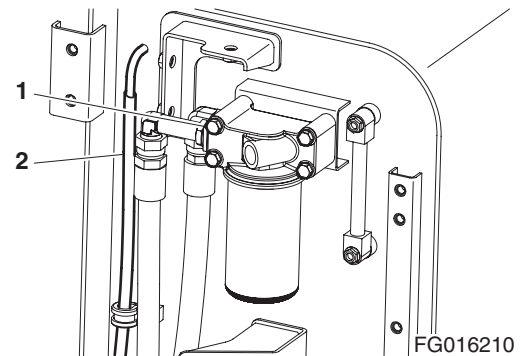

Figure 19
5. Install engine oil filter (1, Figure 19).
6. Connect fuel return line (2, Figure 19).